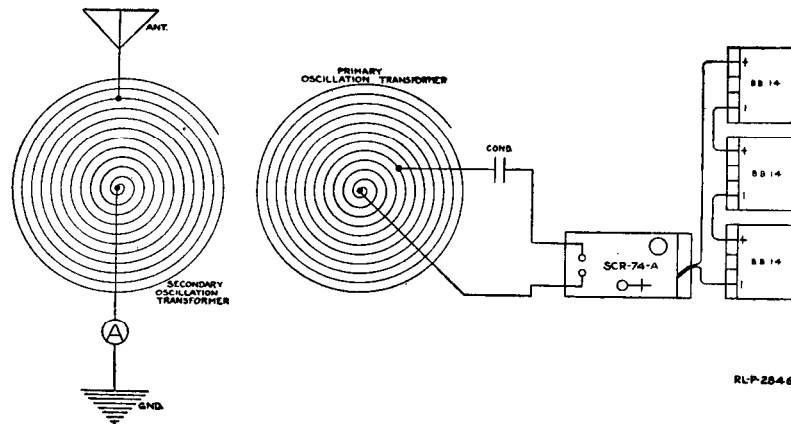

Fig. 35.—The SCR-74-A transmitter inductively coupled to the antenna circuit.
7. With the inductance coil, set box, and batteries connected the same as in Experiment No. 1, place the second helical inductance coil close to and with its plane parallel to the first coil. Connect the antenna lead-in wire to the clip on the second coil and place the clip on about the eighth or ninth turn from the center. Connect the center end of the coil to one side of the hot-wire ammeter and the other side of the ammeter to the ground. (See Fig. 35.)